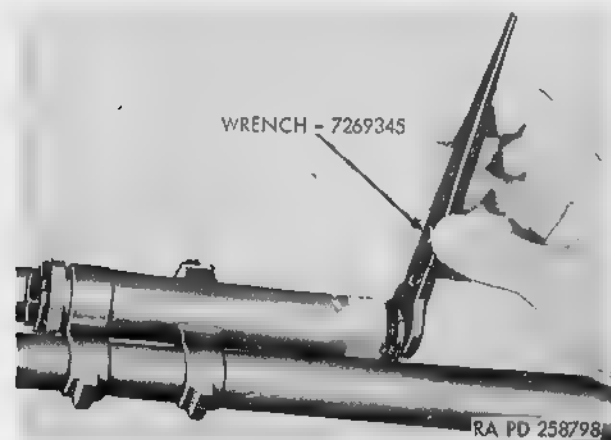

Figure 10. Removing gas cylinder nuts and extension w/wrench 7269345.
d. Remove gas cylinder extension, rear gas cylinder nut, and key washers (fig. 10), using combination wrench 7269345 as shown in figure 4.